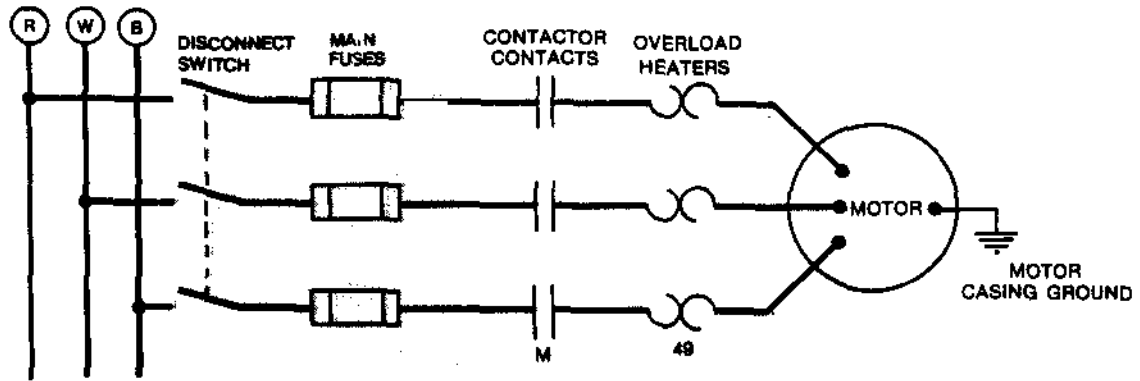
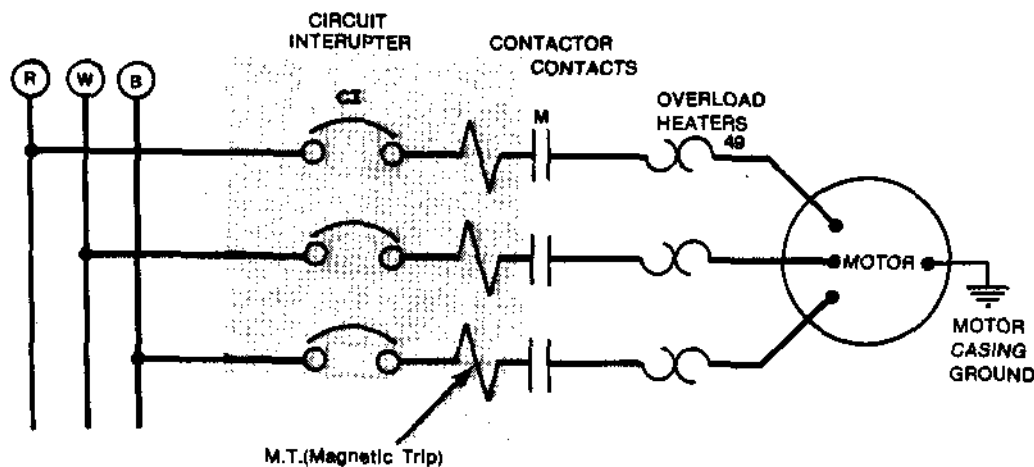

Figure 1: Motor Power Circuit With a Disconnect Switch and Fuses.
Figure 2: Motor Power Circuit with a Circuit Interrupter.
4.1.1 Circuit Using disconnect Switches and Fuses. Figure 1 shows how the power circuit is built up when a disconnect switch and fuses are used. It consists of:
4.1.2 Circuit Using a Circuit Interrupter. Figure 2 shows how the power circuit is built up when a circuit interrupter is used. It consists of:
- (c) overload heaters (49) - to protect against overloads.
- (a) In Figure 1, the circuit isolation is provided by a disconnect switch. Short circuit protection is provided by the main fuses. Another method of achieving isolation and short circuit protection (see Figure 2) is to use a device called a circuit interrupter. (CI for short.) A CI is constructed so that it will interrupt short circuit currents. It has an internal magnetic trip (MT) mechanism that mechanically trips the CI when the current flow is above a pre-determined value. This value will be greater than motor starting current.
Figure 7(a) shows the power and 120 V ac control circuits for a non reversing motor, and Figure 7(b) shows the simplified 48 Vdc control circuit. The power circuit is the same as that shown in Figure 2.